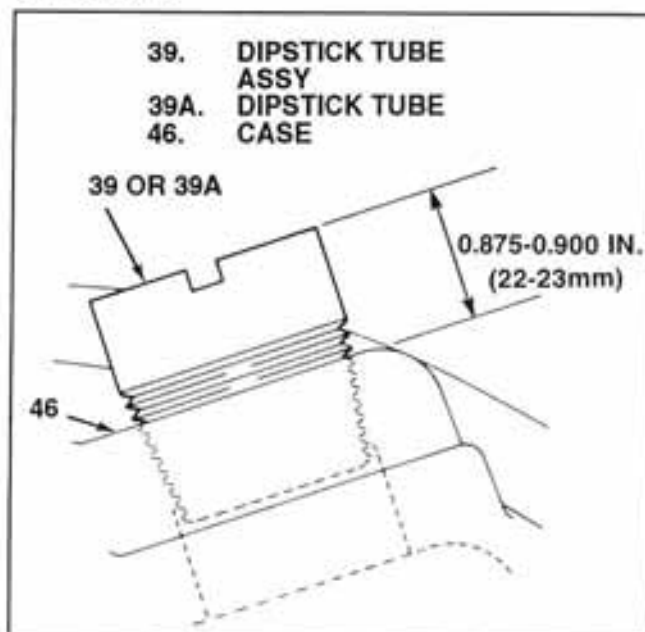

Figure 5-24. Dipstick Tube Installation
e. Select shim(s) of thickness $T_2 \pm 0.0010 \text{ in. } (\pm 0.025 \text{ mm})$ and install on face of bearing cup (30) at input shaft. Install thinnest shim(s) down against bearing cup, thickest shim(s) up to bear against valve and pump assembly (4) when installed.
3. With gasket (5) in position on pump mounting face of case assembly (41), install valve and pump assembly (4) and attach with seven bolts (3). Torque bolts to 24-34 lb-ft (33-46 Nm).
4. Install drain plug (2) and torque to 20-25 lb-ft (27-34 Nm).
5. Install dipstick tube assembly (39 or 39A) to a height of 0.875-0.900 (22-23mm). Install dipstick (1 or 1A). (See figure 5-24)